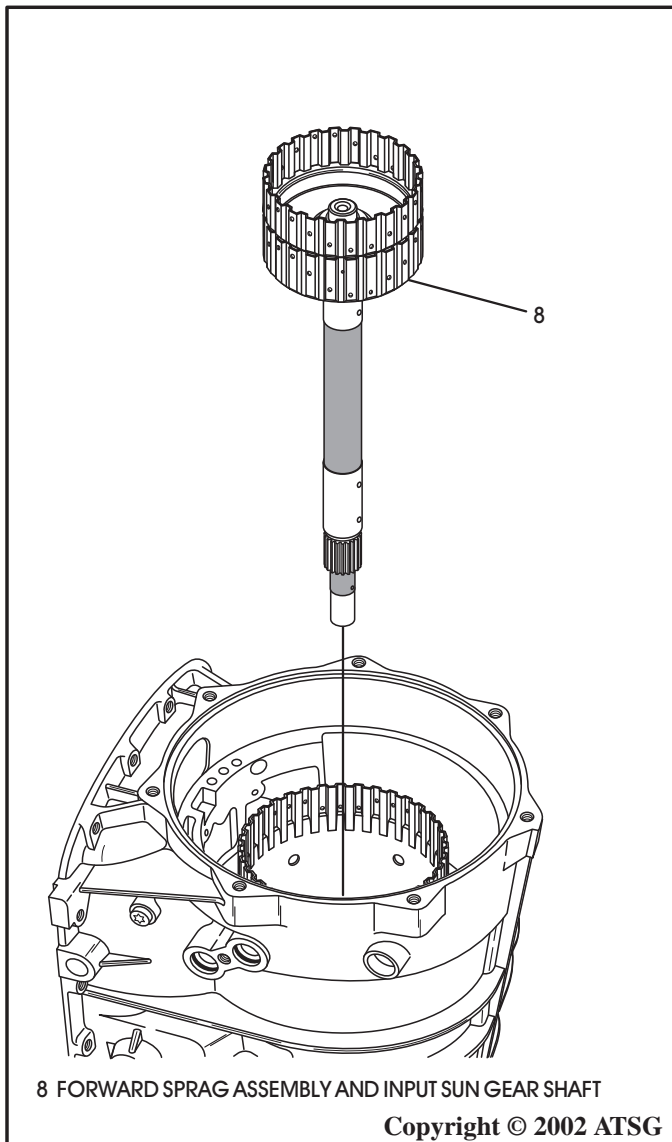

Figure 186
18. Install the pre-assembled forward sprag and sun gear shaft assembly into the transmission, as shown in Figure 186, by rotating back and forth until fully seated.